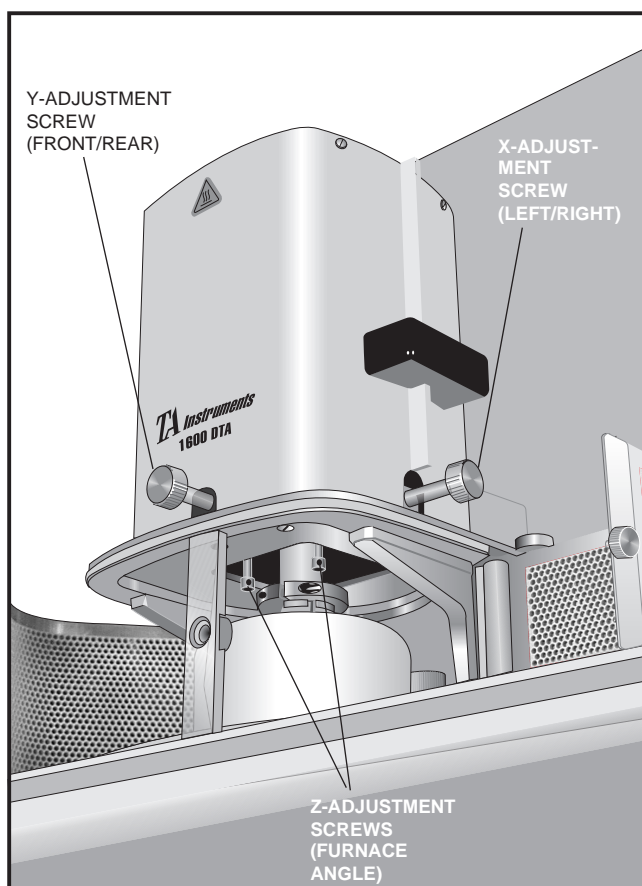

Figure DTA.12
4. If the furnace tube is not centered within the furnace, turn the *x* and *y* screws (see Figure DTA.12) in the appropriate direction (according to Table DTA.2) to center the furnace around the furnace tube.
6. Use the two z-adjustment screws (see Figure DTA.12) to correct the angle, or lean, of the furnace core. Refer to Tables DTA.3 and DTA.4 to determine which screw to adjust and the direction it should be turned.